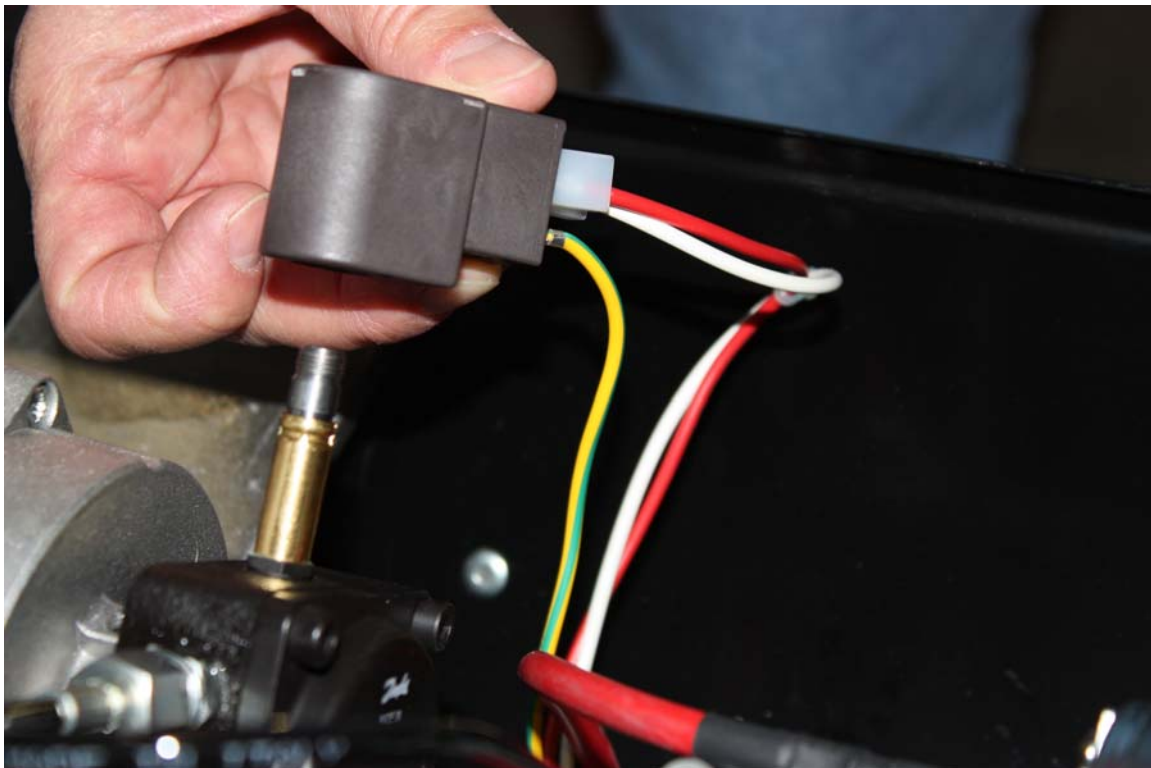

Figure 5-8 – Fuel Solenoid Installation
1. Install new fuel solenoid (71) onto the fuel pump assembly (See Figure 5-8).